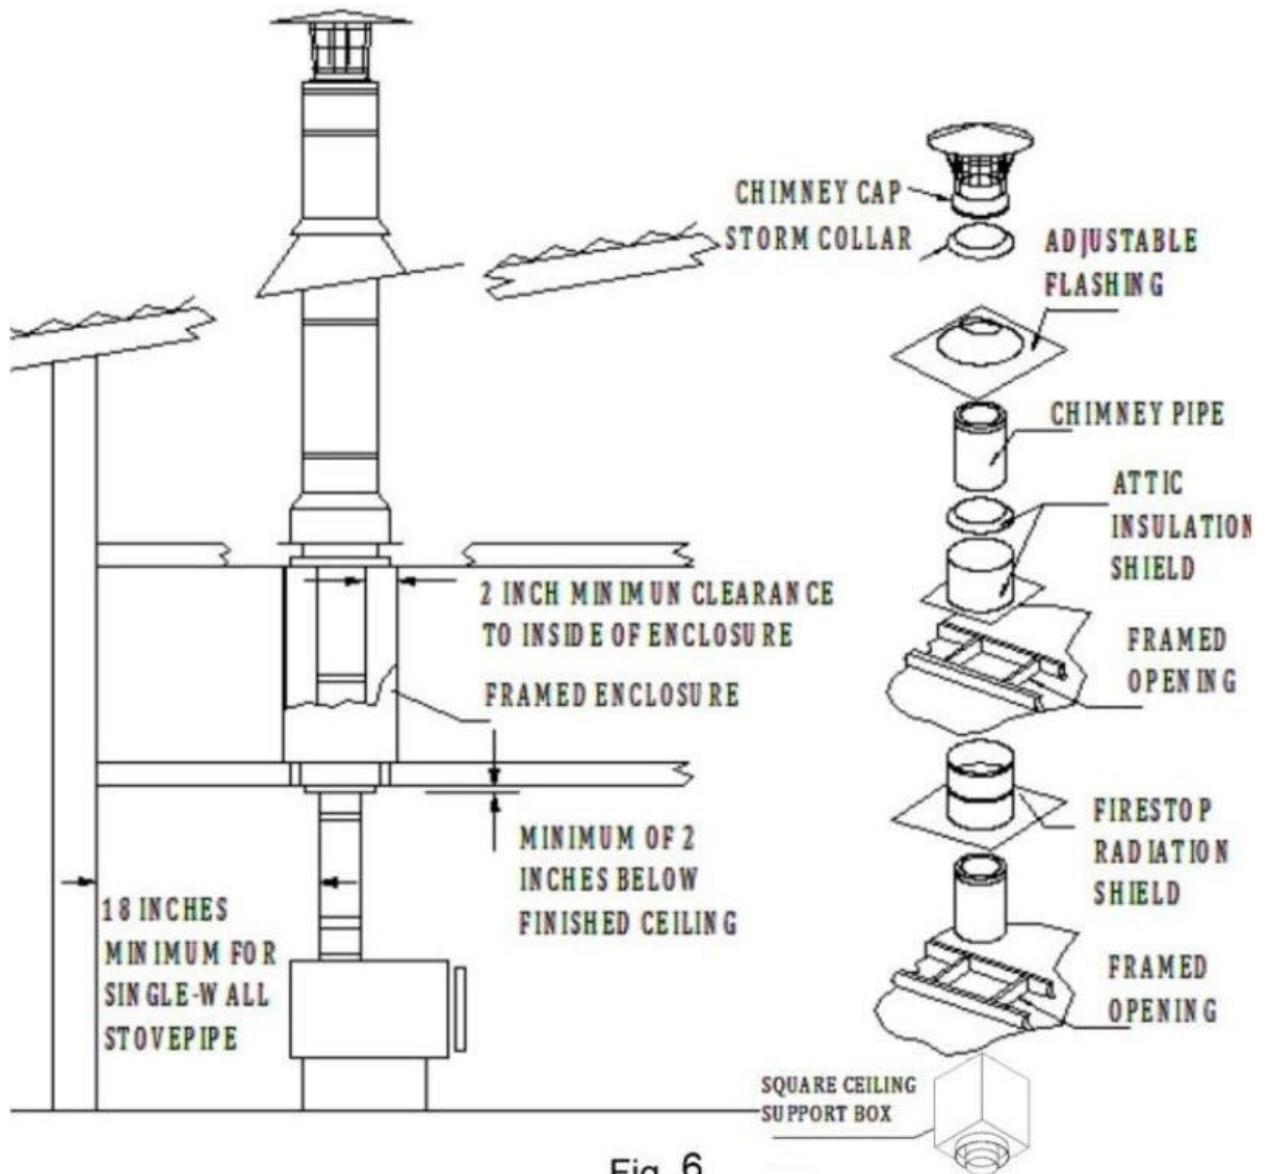
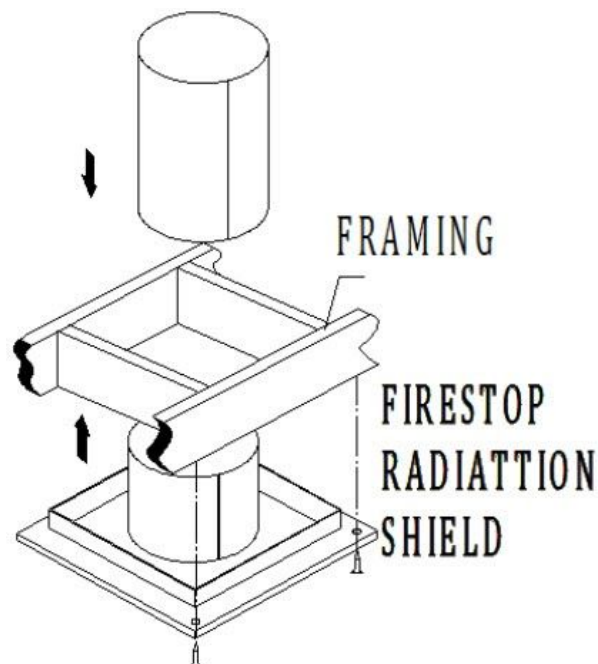

Fig. 6
Fig. 7
- Multi-Story Installation - Frame Openings:** Frame openings in each ceiling or floor above the Support Box (Fig 6). These openings are to hold the Firestop Radiation Shields and Attic Insulation Shields. Locate each opening by dropping a plumb bob to the four corners of the opening below. Maintain the minimum clearances and dimensions as specified in **Table 1**. If Elbows must be used to avoid an obstruction, refer to the Offset Elbow Installation section.
6. **Install Radiation Shield:** A Radiation Shield is required in multistory installations at each floor penetration above that where the Support Box is located. Example: in a multistory home where the appliance is on the ground floor (Support Box is in the 1st floor ceiling), you would need a Radiation Shield at the 2nd floor ceiling, and at the 3rd floor ceiling, etc., including where the chimney penetrates into the attic. Figure 6 shows a typical 2-story installation with an attic. Note: a Radiation Shield is **NOT** installed where the chimney penetrates through the roof. The Radiation Shield is installed on the underside of the ceiling/floor framing, with the cylindrical "tube" portion of the shield pointing upward (Fig 7). Use a minimum of either (1) 8 penny nail or (1) #8, 1-½" wood screws per corner. Refer to **Table 1** for framing requirements.
- d. Slip the Attic Insulation Shield over the chimney pipe until the base sits squarely on the framed opening (Fig 6 & 9).